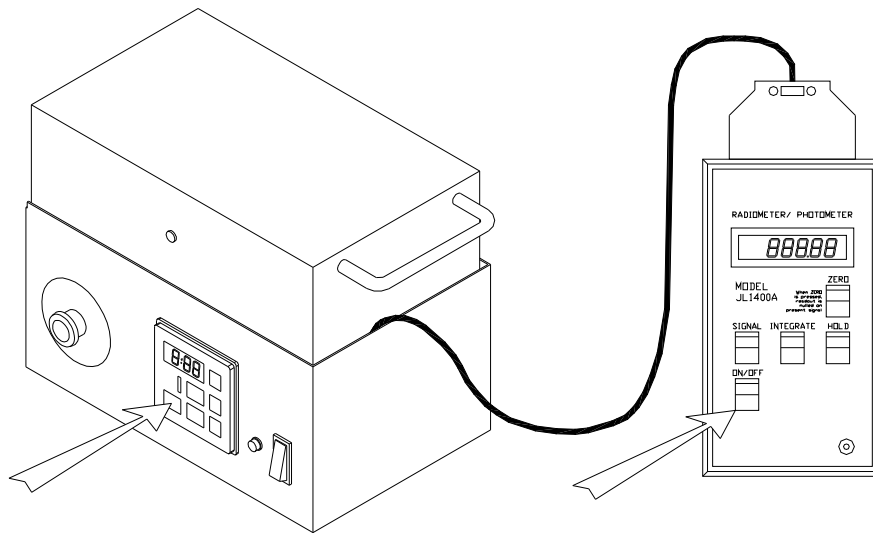

FIG. 6
- 9 Switch the Radiometer on – see Figure 6.